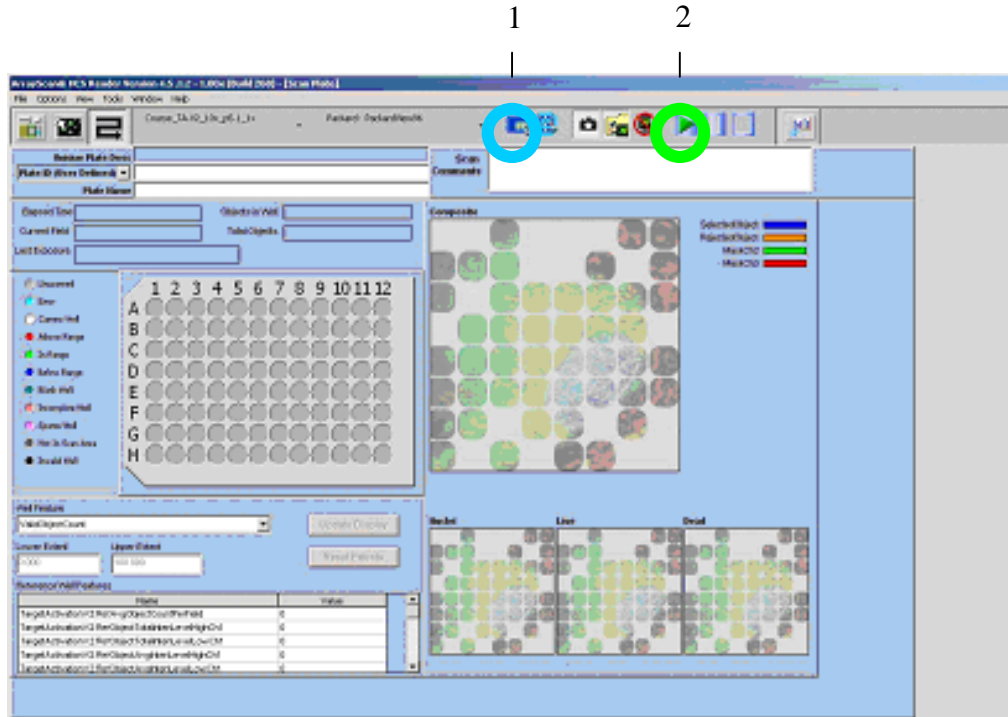

Figure 7. Scan Plate window
11. Selection of the scan area. Give a name for your scan by writing the name in the text box next to Plate ID. **Write down the name, you will need it for work 8.** Click on the blue icon to set the scan area (blue circle [1] in Fig. 7). Select wells E8, E9, F8, F9 for the scan area by dragging the mouse over selection. Selected wells are shown in gray (the yellow highlight just indicates the current cursor position, not selection). Click ok.
12. Scanning your sample. Click the Scan button (green circle [2] in Fig. 7). The scanning should start (click ok for the two warnings that will pop-up). The results will be automatically saved, and they will be analyzed in work 8.